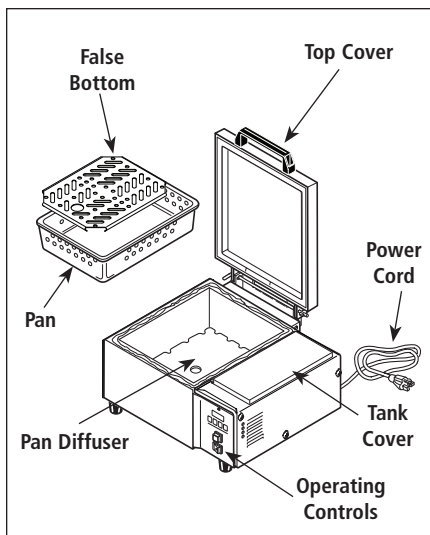

Figure 1. Components
1. Open the tank cover (Figure 1) on the top of the unit.